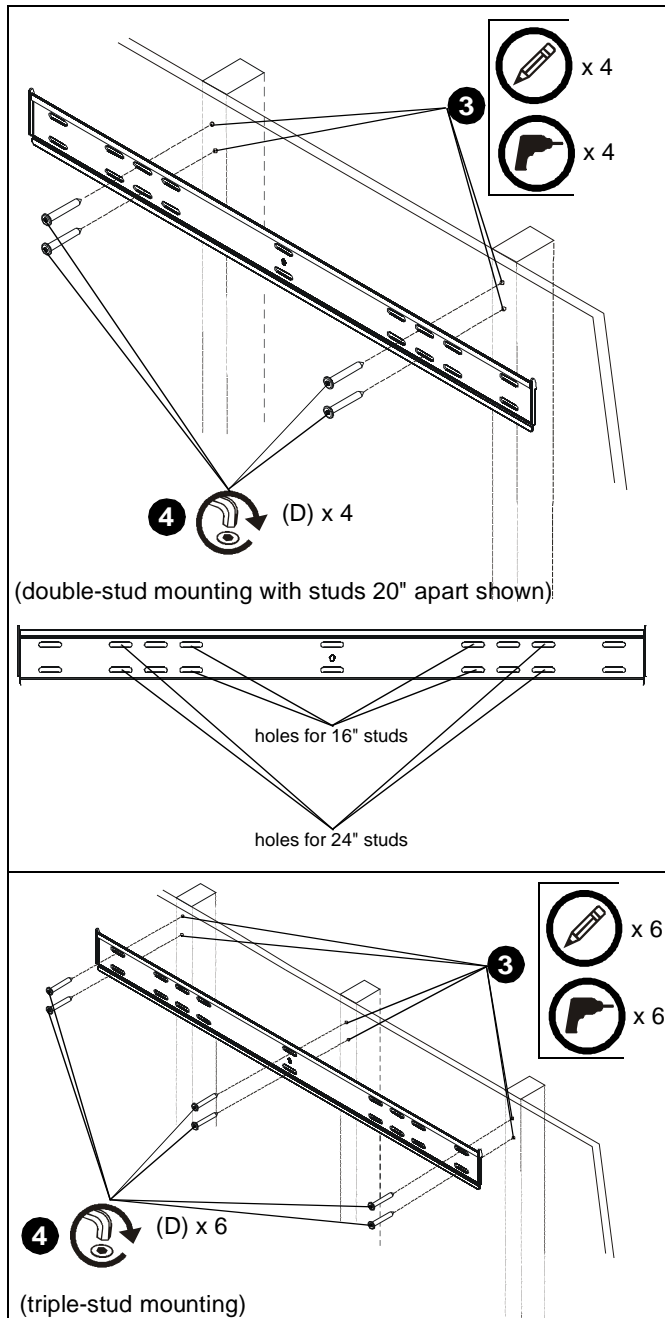

Figure 1
3. Using wall plate as template, mark and then drill four or six (for triple-stud mounting) 3/16" diameter pilot holes through mounting surface making sure the holes are centered in the middle of each stud. Holes must be drilled at least 2-1/4" deep. (See Figure 1)
4. Install four or six connector screws (D) through wall plate and into pilot holes using M4 Allen Head bit (BB). (See Figure 1)